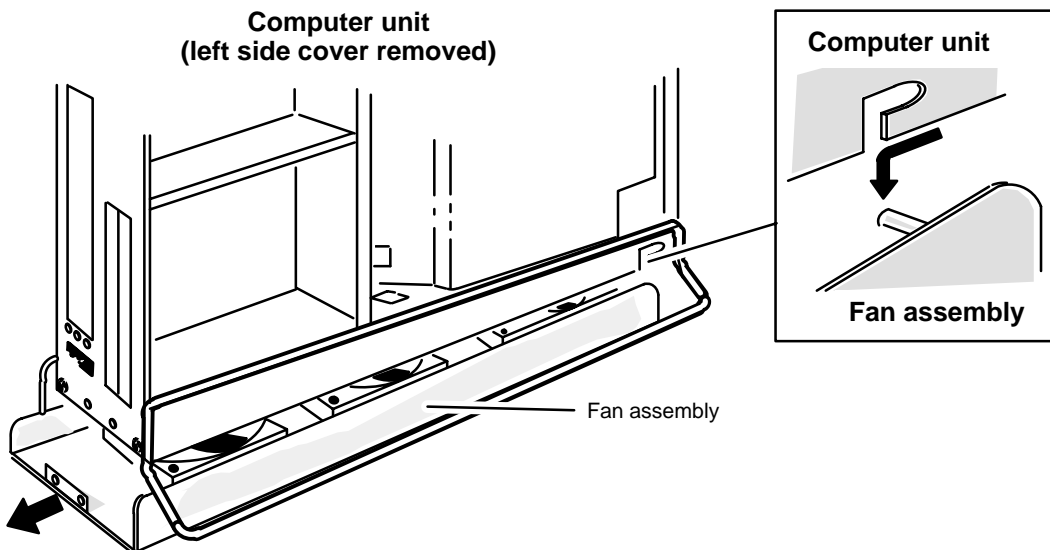

Figure 11-3 Removing the Fan Assembly from the Computer Unit
3. Still supporting the bottom, pull the fan assembly out and down to disengage it from the computer unit as shown in Figure 11-3.